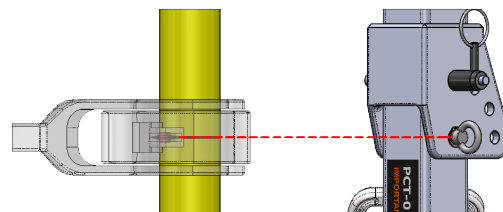

Fig 10
- ☐ Align the ratchet pipe cutter blade to the cut mark. (Fig 10)